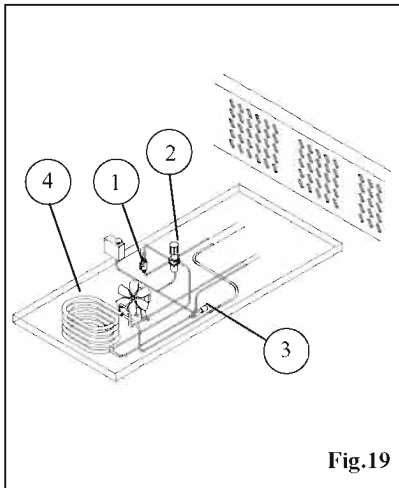

Fig.19
First of all check if the water flux of the opening tap is regular (pos.1 - fig.19).
If it is the reason of the malfunction, substitute the opening tap, disassembling its hydraulic caps. If there is still a malfunction, check flux control valve (pos.2-fig.19).
WARNING! The disassembling must be done only after having closed the opening tap of cooling gas (pos.3 - fig.19).
If even this one is not the cause of bad working, work on the last possible cause, that means on the oil condenser (pos.4-fig.19). Check if it is just a simple occlusion, which can be removed with products against limestone or if it must be removed.